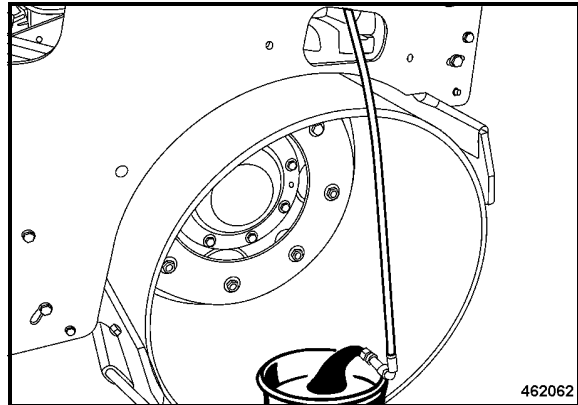

Fig. 156
- Unscrew the leak oil return line at the right front inside the frame, route it to the outside (Fig. 156) and allow all hydraulic oil to run out and catch it.